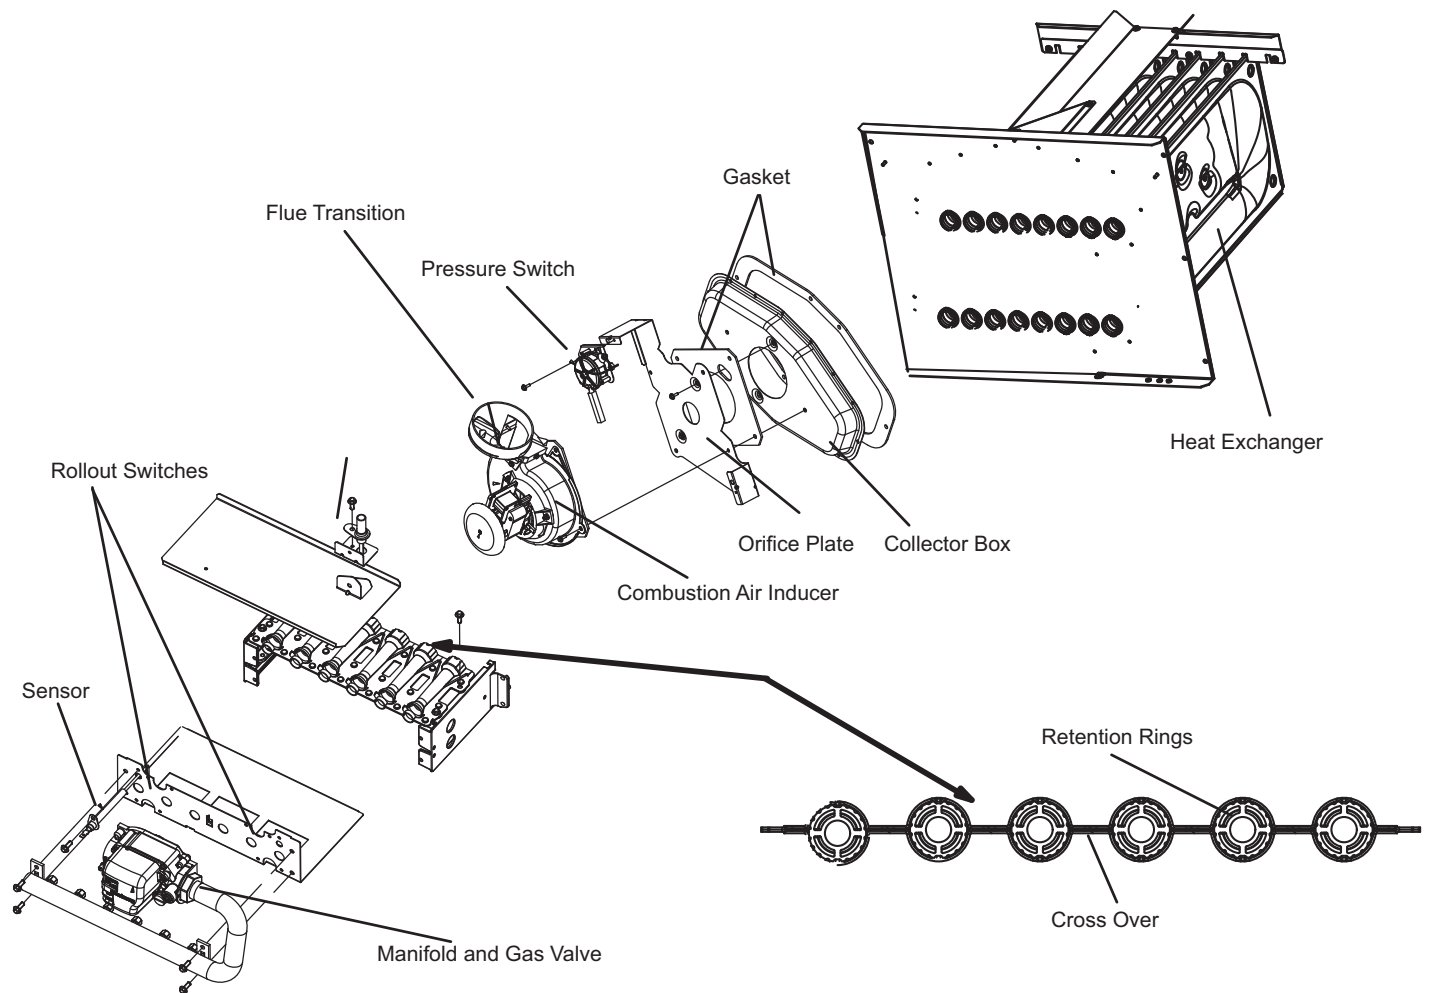

Figure 24. Burner, Combustion Air Inducer Assembly, and Heat Exchanger Removal
10. To clean burners, run a vacuum cleaner with a soft brush attachment over the face of burners. Visually inspect inside the burners and crossovers for any blockage caused by foreign matter. Remove any blockage. **Figure 24** shows burner detail.